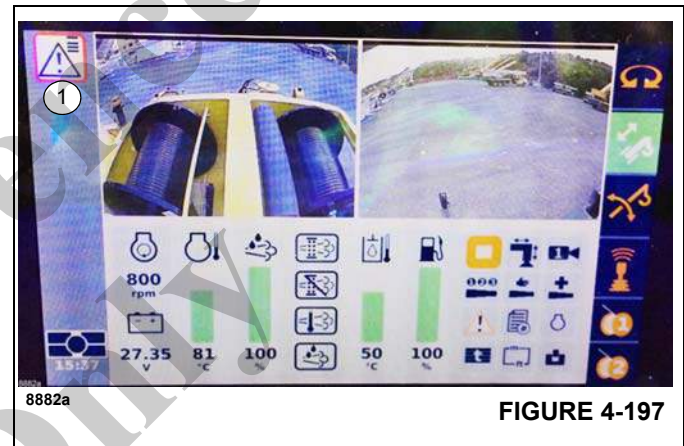

FIGURE 4-197
When the Crane Control System (CCS) detects a fault, then the display area (1), (Figure 4-197) shows an error or warning symbol as indicated in the red box.